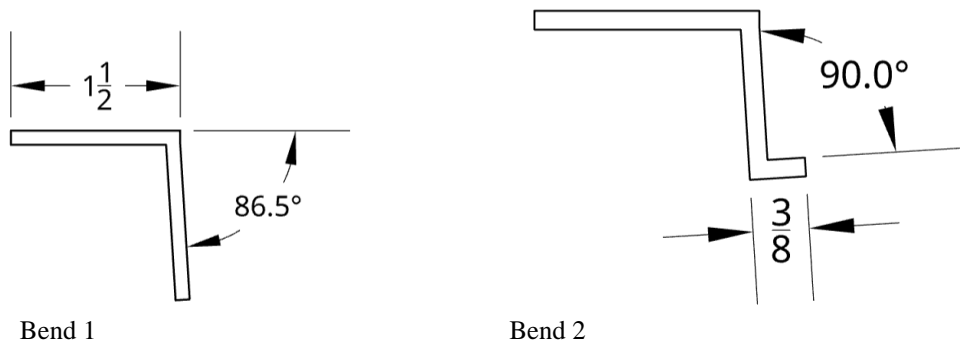

Figure 15. Manufacturing Step 13
13. To finish the backset, bend the sheet at an 86.5° angle $1\frac{1}{2}$ " from the end of the sheet, opposite the previous cutout. Optional: Add a 90° bend $\frac{3}{8}$ " from the edge for additional stability as shown in figure 15.